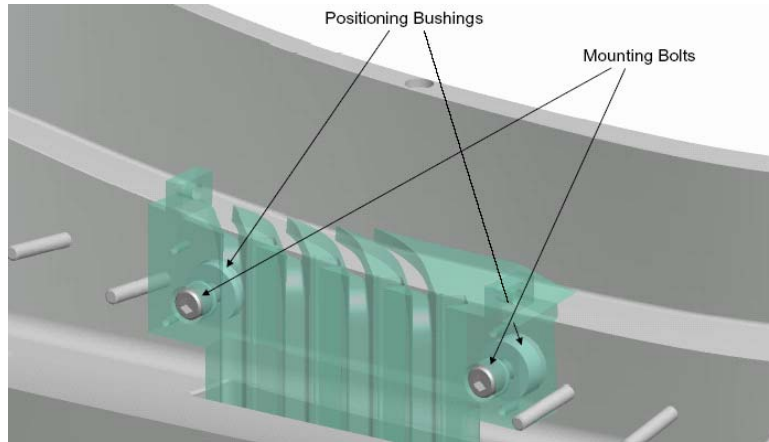

Figure 14-Position Lower Lead Blocks
- 6.19.1.1 Install the positioning bushings and lower leads blocks (sides A and B) and lightly tighten hardware. [**Figure 14-Position Lower Lead Blocks**] Note: The figure may change due to change in machining details.